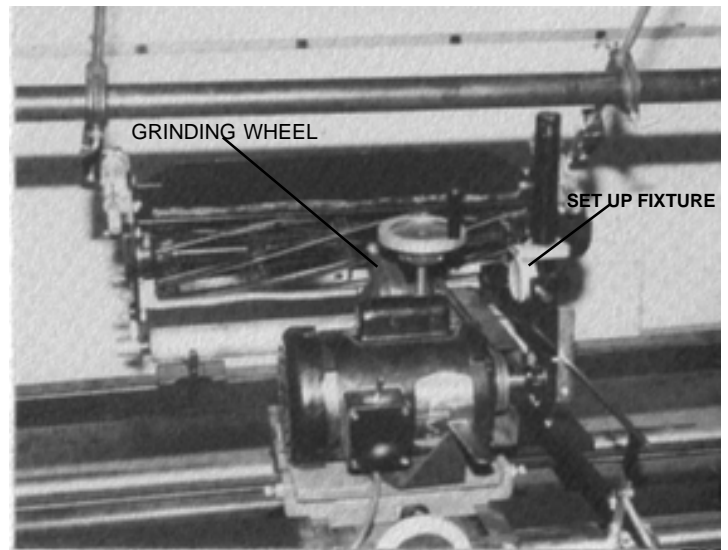

Fig.4
A. Position the grinding wheel assembly in the middle of 36" or wider reels or to one side of the grinder on smaller reels, so that you can touch both sides of the reel with the set up fixture without moving the grinding wheel assembly from side to side. (See Fig. 4)